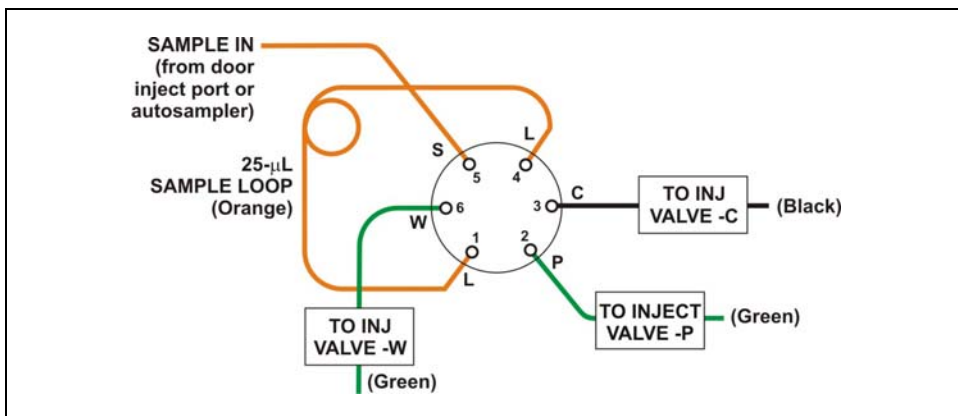
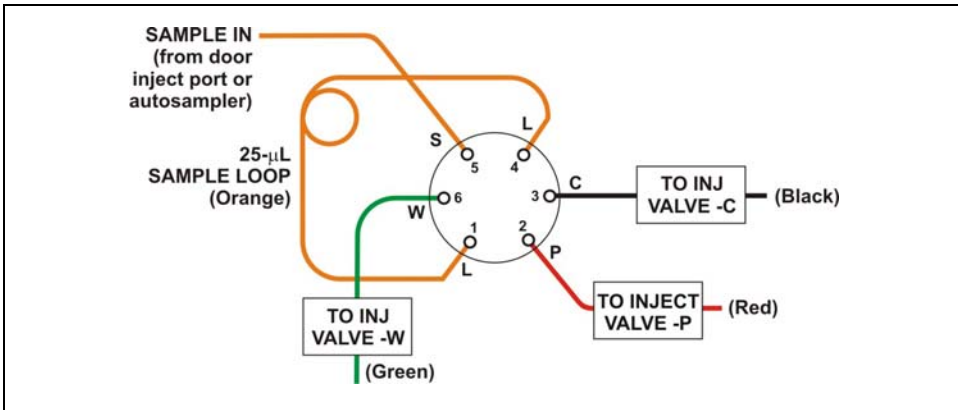

Figure 1. Dionex ICS-1000, ICS-1100, ICS-1500, and ICS-1600 Injection Valve Plumbing
Figure 2. Dionex ICS-2000 and ICS-2100 Injection Valve Plumbing
5. Reconnect all liquid lines to the injection valve (see Figure 1 for the Dionex ICS-1000/1100/1500/1600 or Figure 2 for the Dionex ICS-2000/2100).